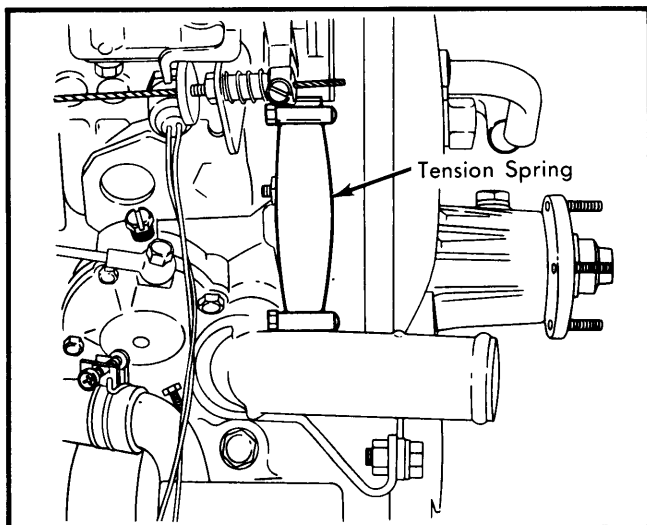

Fig. 10 Timing Belt Tensioner Spring
4) Remove tension spring behind front plate next to injection pump. See Fig. 10. Loosen tension pulley and plate bolts, then remove timing belt.